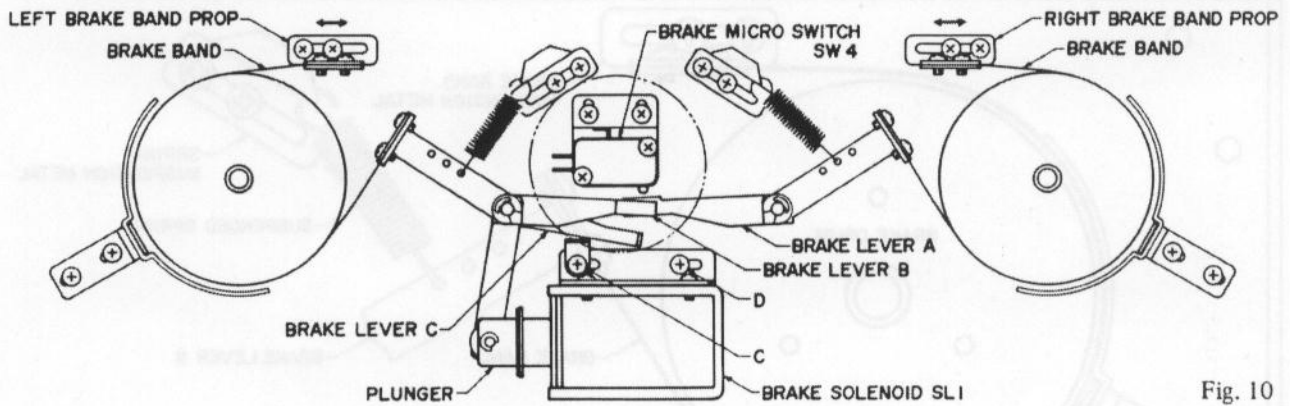
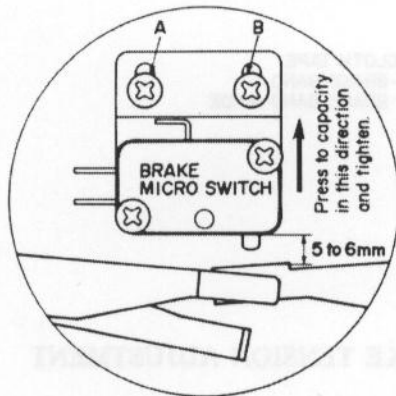

Fig. 10
Fig. 11
- 1) As shown in Fig. 11, press brake micro switch as far as it will go toward the top of the mechanical frame, and tighten screws A and B.
- 2) Move the Right Brake Band Prop shown in Fig. 10 so that the gap between Brake Lever A and the body of Brake Micro Switch is 5 to 6 mm (See Fig. 11).
- 3) Move the Left Brake Band Prop shown in Fig. 10 so that Brake Lever B and Brake Lever A are simultaneously operated by Brake Lever C.